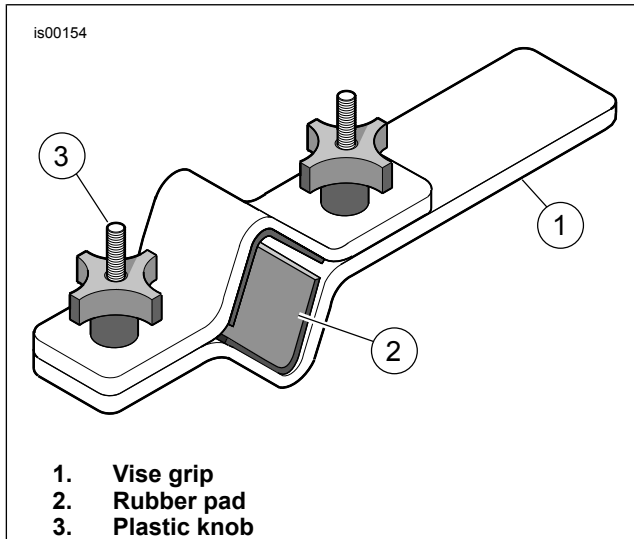

Figure 1. Fork Tube Holder (HD-41177)
1. See Figure 1. Install fork in Fork Tube Holder (HD-41177) as follows:
- a. Clamp end of tool (1) in vise in a horizontal position.
2. See Figure 1. Install fork in Fork Tube Holder (HD-41177).